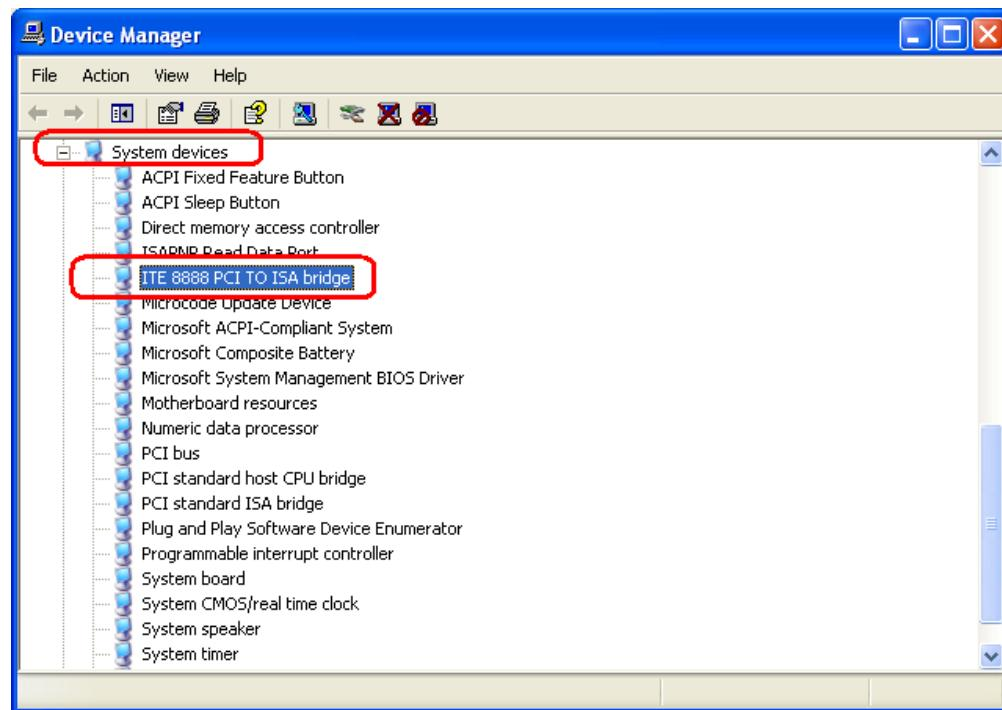

Figure 7-48: Device Manager Update
Step 87: The Device Manager refreshes and the PCI Driver can be seen in the System Devices option. See **Figure 7-48**.